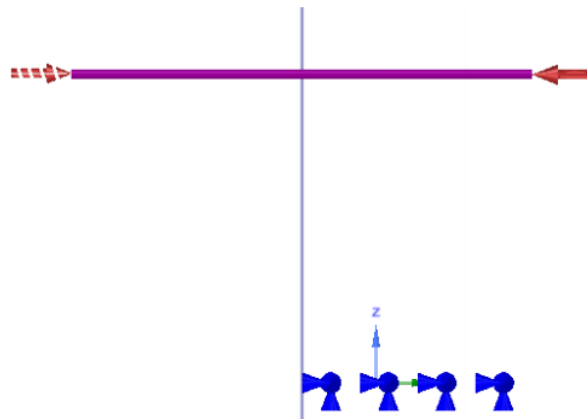

Figure 102 – Optimization using "Symmetric" mirroring properties
- **Symmetric:** load is applied simultaneously on both sides of the mirroring plane, with the direction of the load reflected (Figure 102).